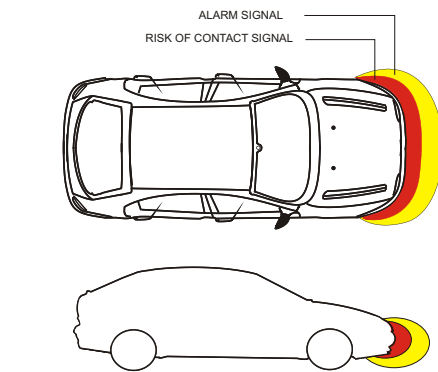

Fig. 6
**D)** Insert all plug-in connectors into the proper position on the Central Unit (ECU) as per Fig. 6.
**PD1-FRONT** is an innovative parking sensor that uses low energy electromagnetic waves and is able to detect the approach of any kind of obstacle. The activation of the device is obtained by pressing the activation button and confirmed by a signal of "OK". Once activated, the **PD1-FRONT** generates around the bumper, on which is installed, a protection zone (Fig. 6). When any obstacle present in the protection zone tends to approach the bumper you will hear a series of beeps.
- The distances will vary depending on the size of the obstacle and correspond to the central zone of the bumper; on the lateral edges the distances is less (see Figure 6)